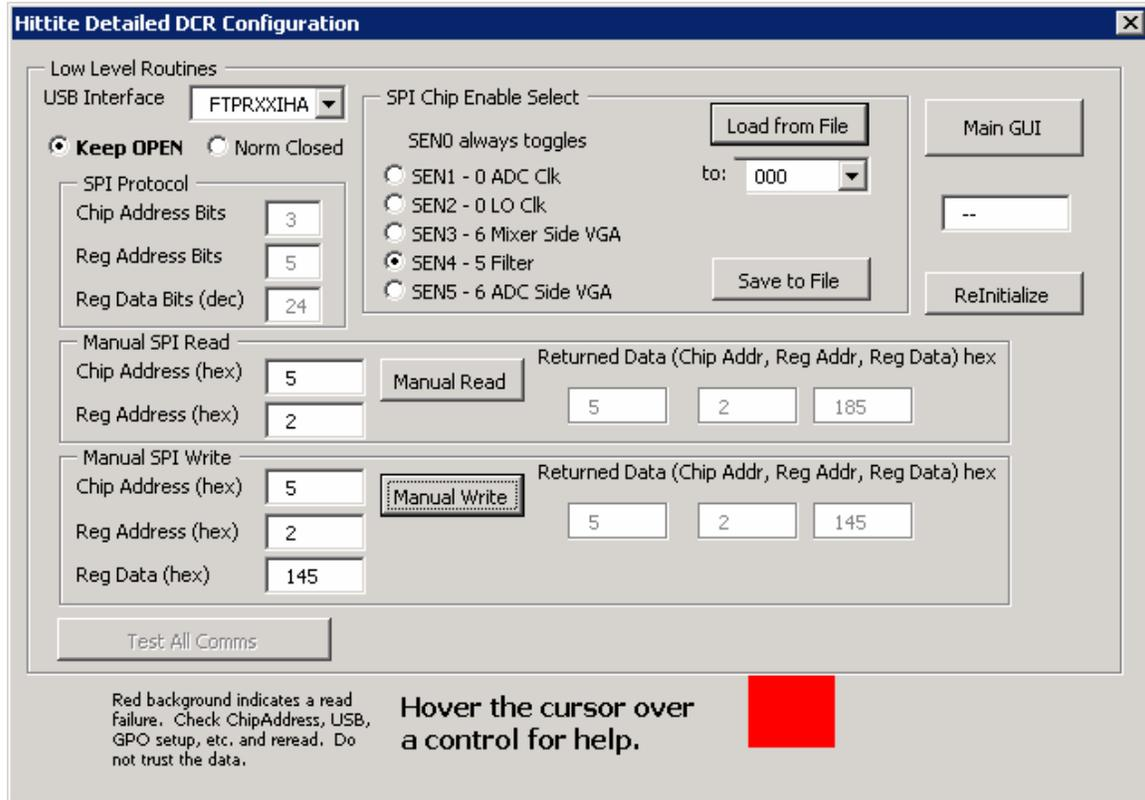

Figure 58. Program coarse_bandwidth_code to HMC900LP5E
5. Finally execute step 3 of filter calibration in HMC900LP5E data sheet on page 17. Write coarse bandwidth code to Reg02h[9:6] as per Figure 58. Initially read Reg02h value from HMC900LP5E in order to ensure that other Reg02h values are not changed when writing bits[9:6] as per Figure 58. The value read from Reg02h was Reg02h = 185h. Therefore in order to write Reg02h[9:6] = 0h, Reg02h = 145h needs to be written as per Figure 58.